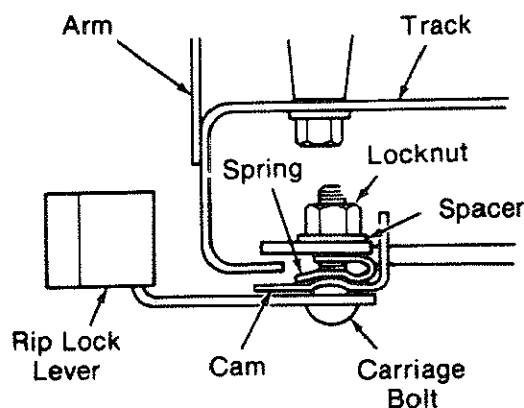

Fig. 185 - Location of Hex Lock Nut
1. Hold the *rip lock* in the unlocked position and with a 7/16 inch wrench tighten the 1/4-20 hex lock nut 1/4 turn. (Figure 185)